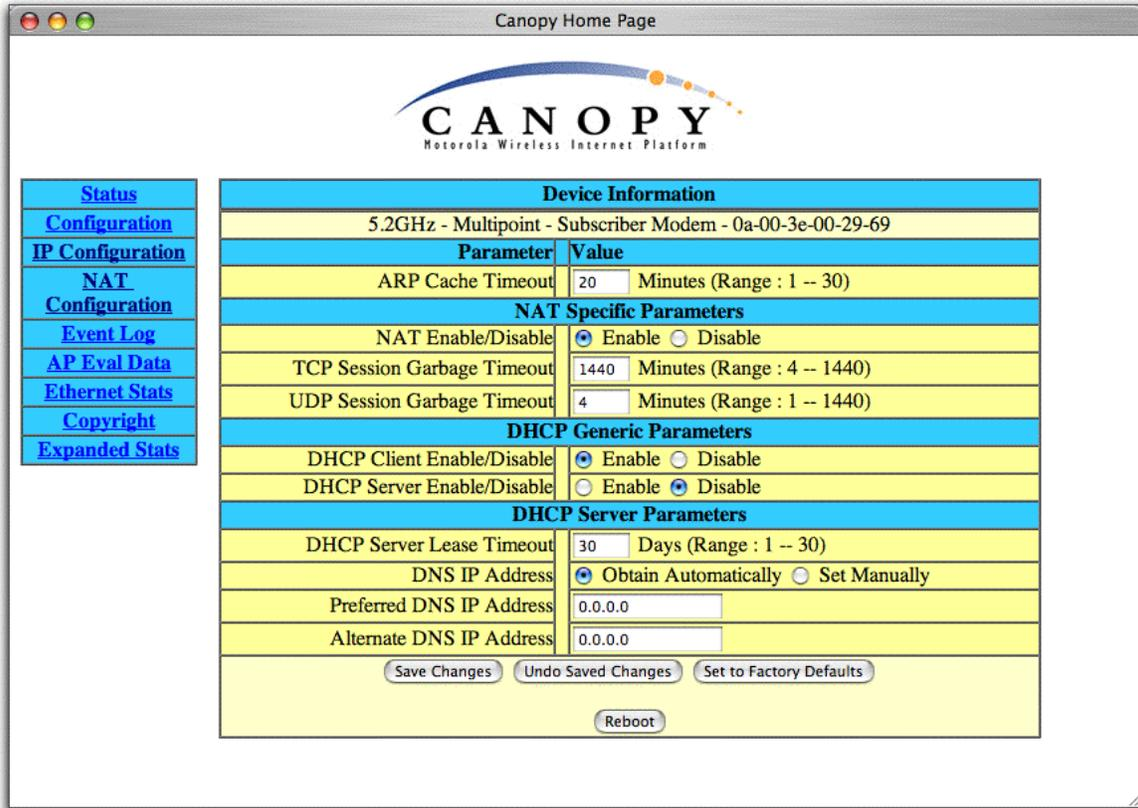

Figure 46: NAT Configuration screen, NAT with DHCP client
- Figure 46 on Page 102 for the NAT with DHCP Client implementation.